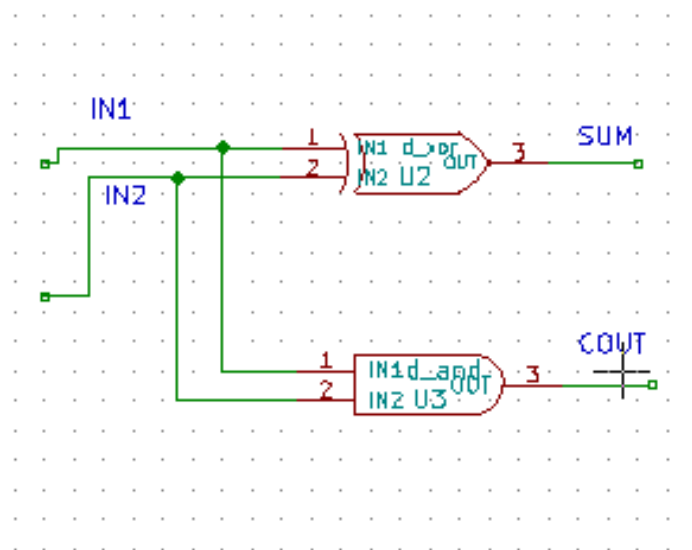

Figure 8.3: Inner circuit of the subcircuit
- After clicking **OK** button it will open KiCad schematic. Draw your circuit which will be later used as a subcircuit. e.g the Fig. 8.3 shows the half adder circuit.